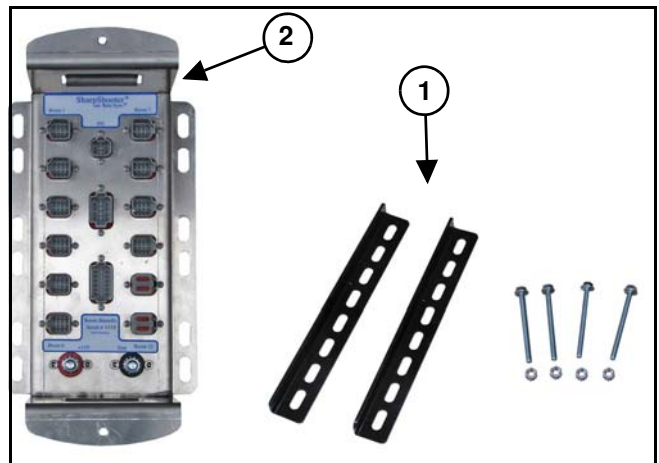

Figure 4
[Figure 4] - Use the hardware mounting kit (1) to install the power hub (2) on, or near, the center of the boom mast.